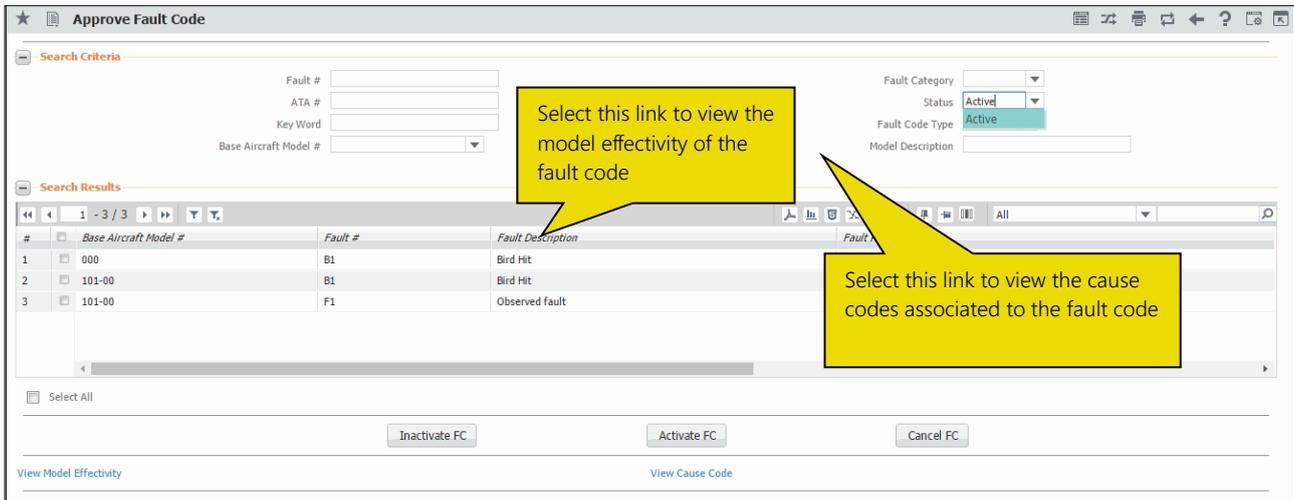

Figure 4.7 Approving fault codes
1. Select **Approve Fault Code** under the **Fault Isolation Manual** business component. The **Approve Fault Code** page appears. See *Figure 4.7*.